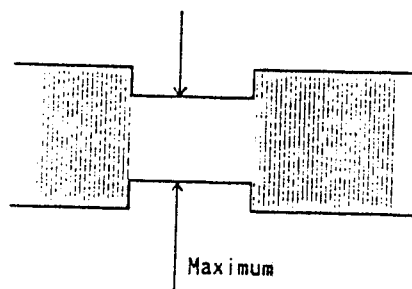

Fig. 2-9
3. Adjust the X value adjustment nut  $\odot$  for maximum PB FM signal for CH1 by using F6-N test tape (Refer to Fig. 2-9)